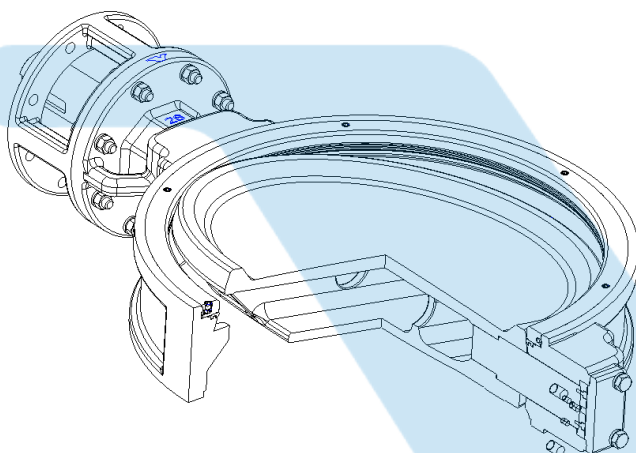
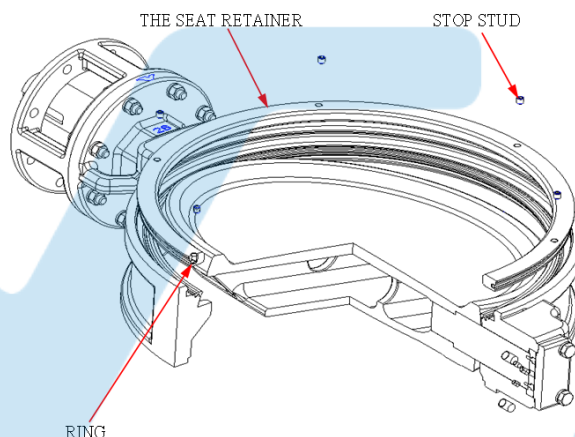
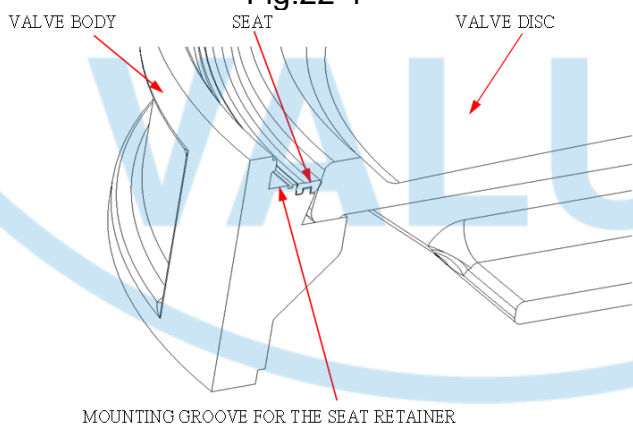

Fig.22-1
Fig.22-2
Fig.22-3
12.2.6. For the size 26" or above, turn the disc to the position as shown in Fig 22-1. To loose the stop stud on the seat retainer (Fig 22-2), and remove the retainer and seat (Fig 22-3).